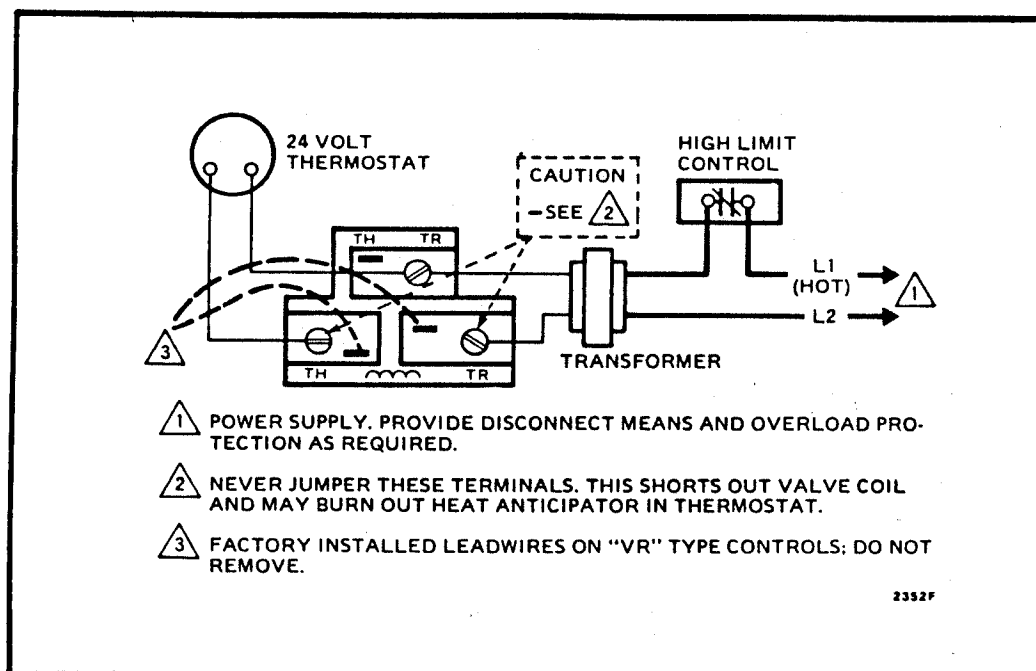

Fig. 9—Typical wiring diagram for the V804A, 24 V operator.
2. Connect the control circuit to the operator terminals as shown in Fig. 9.